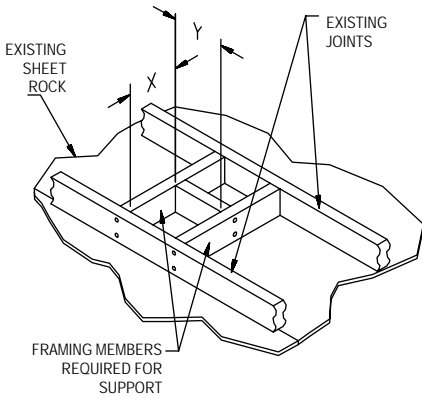
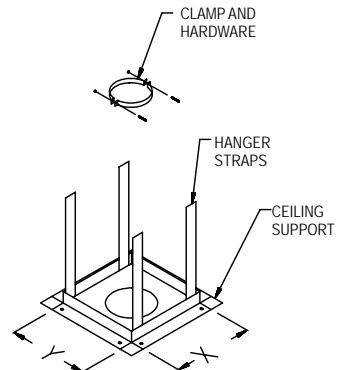

Figure 4
Figure 6
3. Ceiling Support. For a ceiling supported system, install the Square Firestop/Support as shown in *Figures 6, 7, and 8*. The Firestop Support must be framed in and the dimensions are shown in *Table 1* and shown in *Figure 4*. Firestop Supports are currently manufactured for pipe sizes of 3" through 12" only. Larger sizes may be locally fabricated from sheet metal, provided that the mandatory 1-inch clearance is maintained, the pipe is adequately supported, and the installation is acceptable to Local Authorities. In multistory buildings, a Firestop/Spacer must be provided at every floor /ceiling level other than the first floor which requires a support.